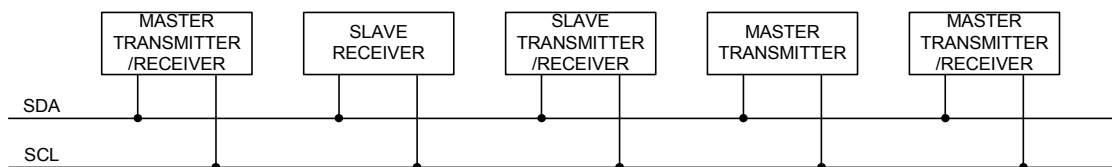
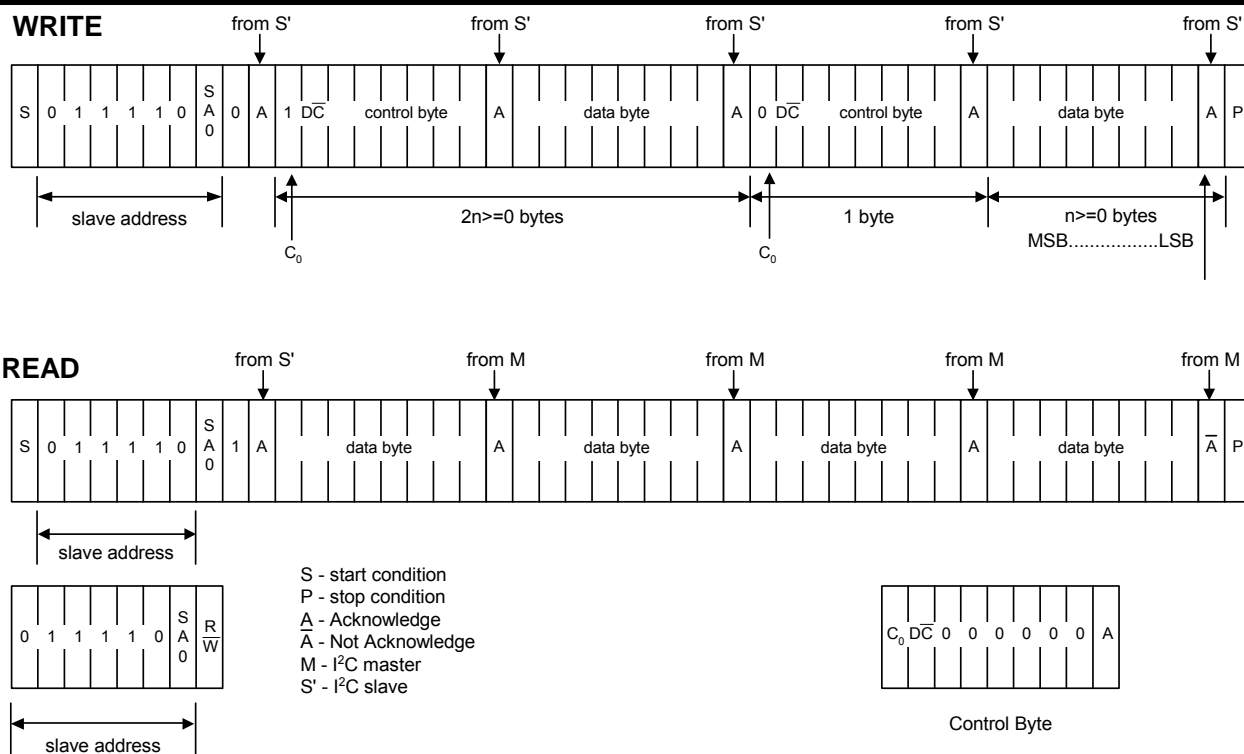

Figure 7 System configuration
Figure 9 I²C Protocol
The SH1108 supports both read and write access. The $\overline{R/\overline{W}}$ bit is part of the slave address. Before any data is transmitted on the I²C-bus, the device that should respond is addressed first. Two 7-bit slave addresses (0111100 and 0111101) are reserved for the SH1108. The least significant bit of the slave address is set by connecting the input SA0 to either logic 0(GND) or 1 (VDD). The I²C-bus protocol is illustrated in Fig.7. The sequence is initiated with a START condition (S) from the I²C-bus master that is followed by the slave address. All slaves with the corresponding address acknowledge in parallel, all the others will ignore the I²C-bus transfer. After acknowledgement, one or more command words follow which define the status of the addressed slaves. A command word consists of a control byte, which defines Co and $\overline{D/\overline{C}}$ (note1), plus a data byte (see Fig.9). The last control byte is tagged with a cleared most significant bit, the continuation bit Co. After a control byte with a cleared Co-bit, only data bytes will follow. The state of the $\overline{D/\overline{C}}$ -bit defines whether the data-byte is interpreted as a command or as RAM-data. The control and data bytes are also acknowledged by all addressed slaves on the bus. After the last control byte, depending on the $\overline{D/\overline{C}}$ bit setting, either a series of display data bytes or command data bytes may follow. If the $\overline{D/\overline{C}}$ bit was set to '1', these display bytes are stored in the display RAM at the address specified by the data pointer. The data pointer is automatically updated and the data is directed to the intended SH1108 device. If the $\overline{D/\overline{C}}$ bit of the last control byte was set to '0', these command bytes will be decoded and the setting of the device will be changed according to the received commands. The acknowledgement after each byte is made only by the addressed slave. At the end of the transmission the I²C-bus master issues a stop condition (P). If the $\overline{R/\overline{W}}$ bit is set to one in the slave-address, the chip will output data immediately after the slave-address according to the $\overline{D/\overline{C}}$ bit, which was sent during the last write access. If no acknowledge is generated by the master after a byte, the driver stops transferring data to the master.